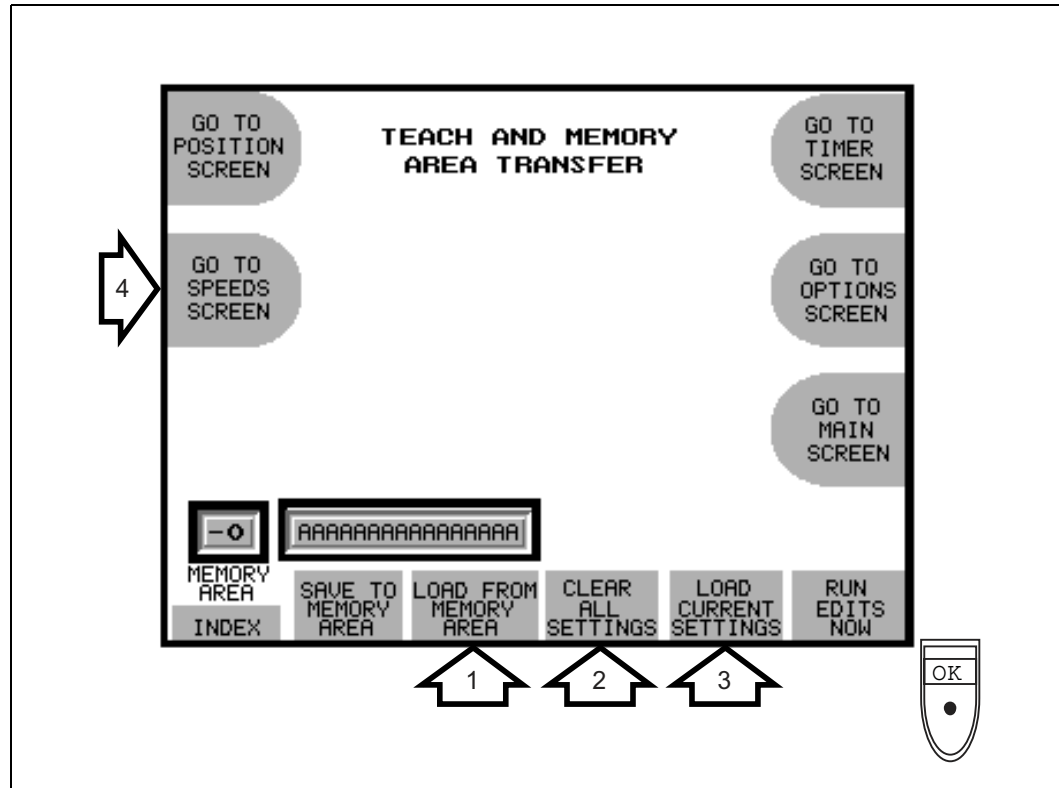

Figure 7-12: Teach and Memory Area Transfer Screen
2. Press the **TEACH** key. The Teach and Memory Area Transfer Screen displays (Figure 7-12).
- a. Press the **CLEAR ALL SETTINGS** key (#2 on Figure 7-12) to start with a blank scratchpad.